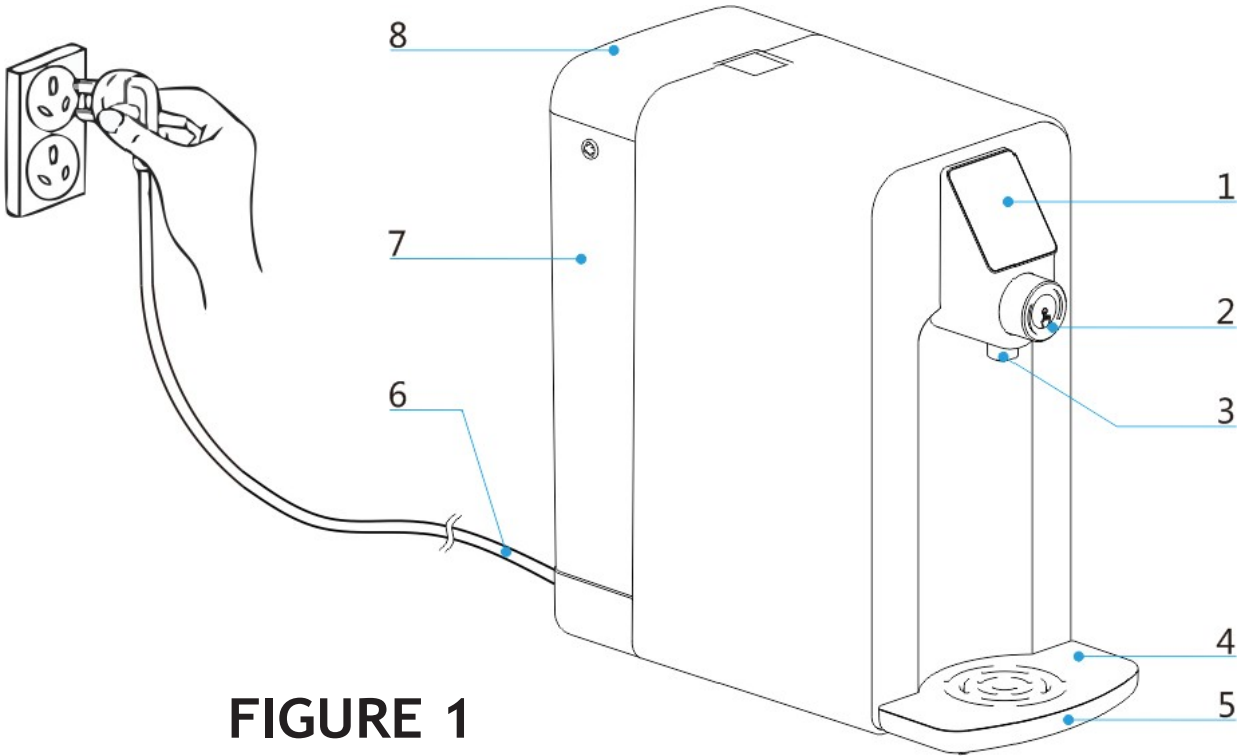
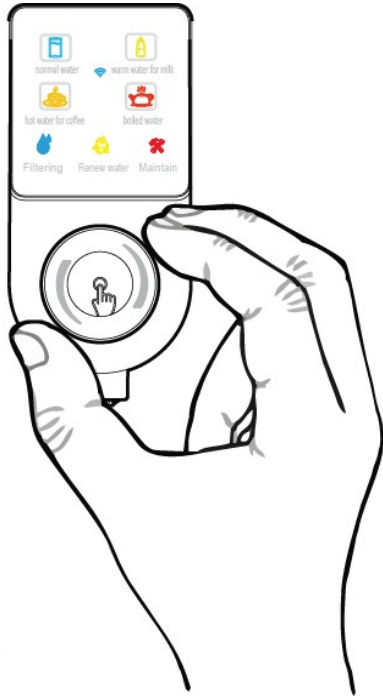
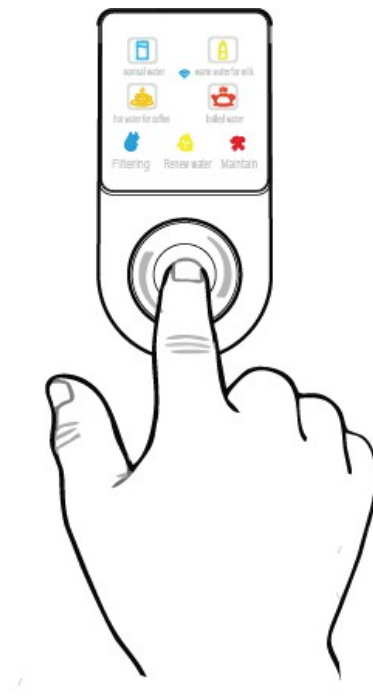

FIGURE 1
FIGURE 5
FIGURE 6
- Insert the power plug into the socket (see Figure 1). The system will beep and light up which indicates the machine is ready to use.
- Place the water container on the tray (see Figure 1). Rotate the knob to select the desired water temperature (Figure 5), and then click on (or push on for 3 seconds) the middle part of the knob (see Figure 6) to dispense one cup (or bottle) of water. Click the knob again if you want to stop getting water. Note: the system will automatically stop water after 30 seconds if you do not click the knob and will automatically stop after 60 seconds if you hold the button for 3 seconds.